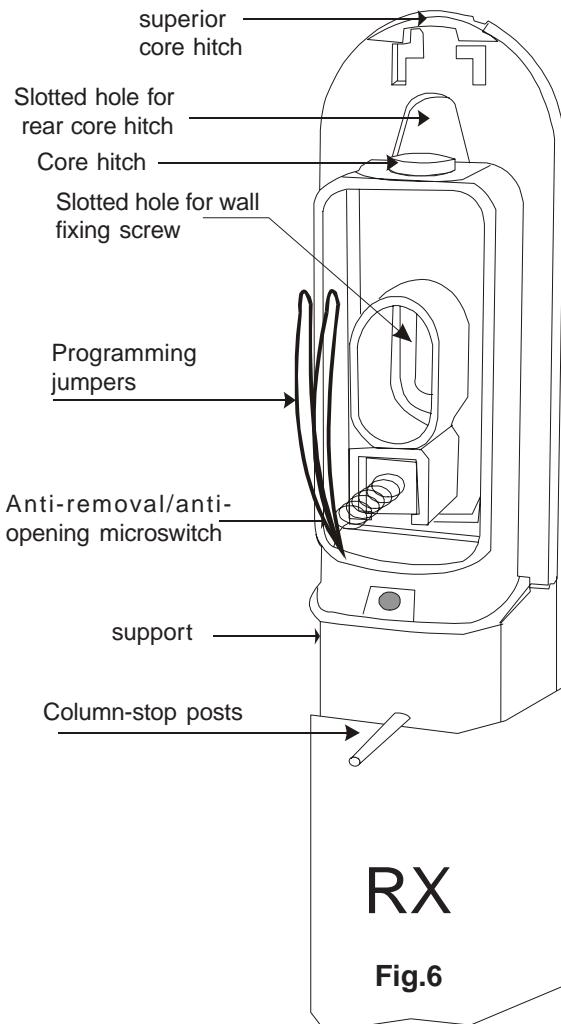

Fig.6
- Fix the column to wall by inserting the fixing screws inside the appropriate slotted holes, and tighten them (Figure 6).
- Run the cable through the appropriate slotted holes (Figure 6) if you wish to use the rear core hitch.
- Cut the column-stop posts (on the RX and TX) being careful to remove any residual traces of burrs to avoid compromising the heat expansion compensation (Figure 6).